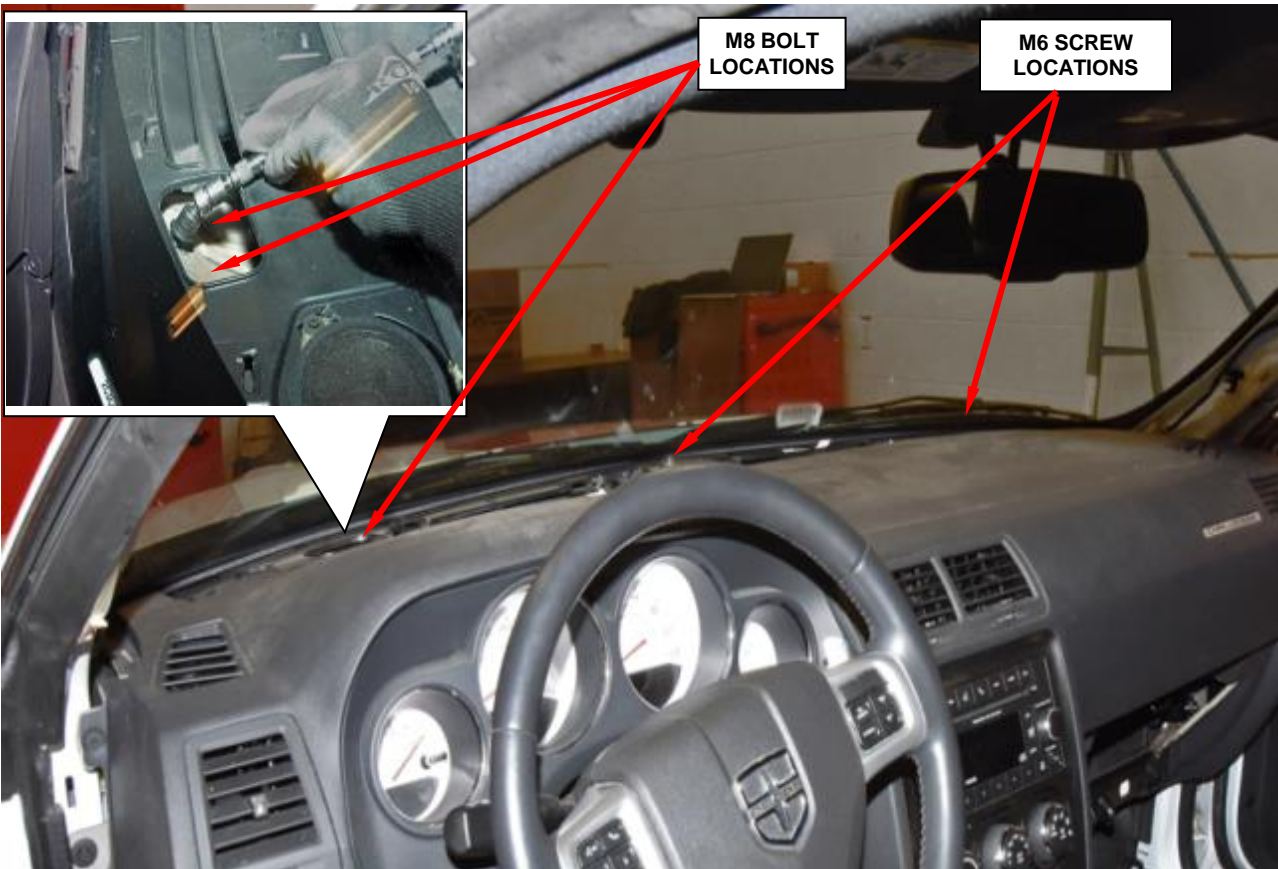

Figure 47 – Top Instrument Panel Fasteners
33. Remove the defroster grille to access the instrument panel top retaining bolts then remove and save the two M8 bolts and two M6 screws (Figure 47).